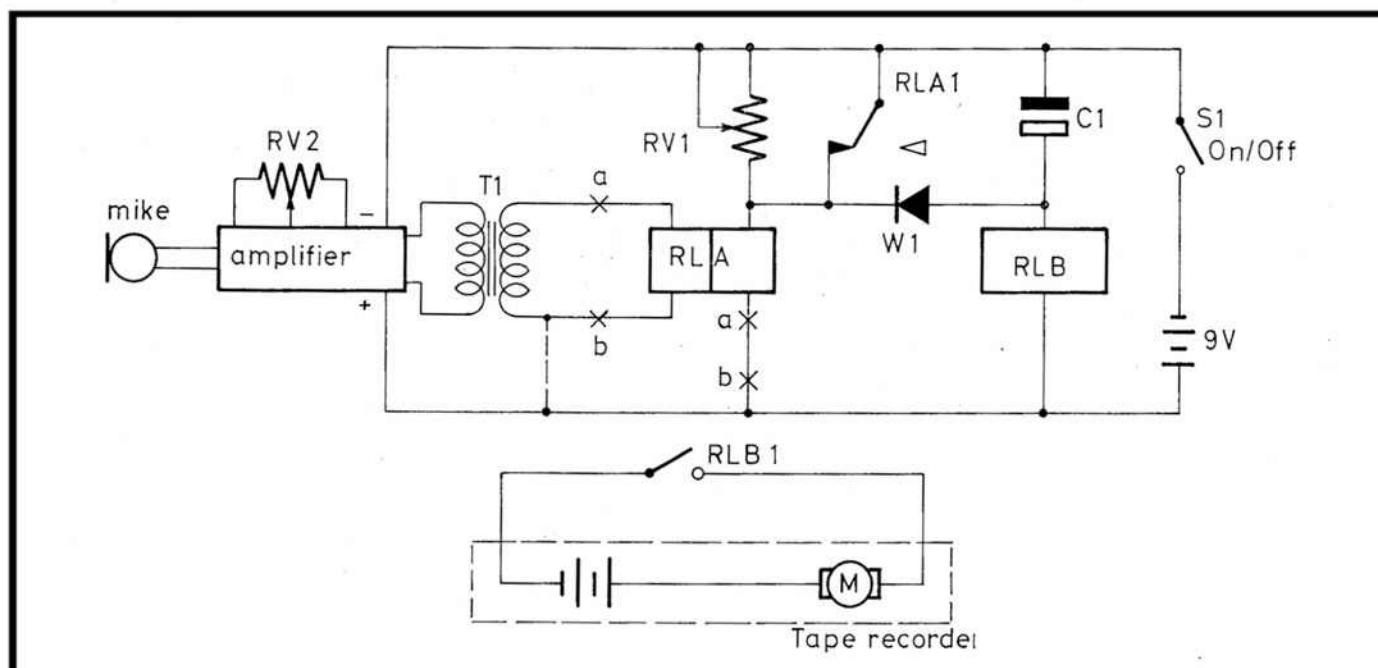

Fig. 1. Circuit of the acoustic switch.
The sound pressure level of normal conversation is not sufficient to operate a switch directly and so it is necessary to convert the sound into electrical energy using a microphone and apply it to an amplifier in order to raise it to a useful power level. The obvious method of using the amplifier output is to operate a relay, which in turn switches on or off the tape recorder motor circuit. Fig. 1 shows the complete circuit, the acoustic input being to the microphone at the left and the switch contacts being on the right. The microphone indicated is separate from the one associated with the recorder. It would be possible to use one microphone to drive both the recorder and the acoustic switch, but I decided that separate instruments give certain advantages. First, it is not necessary to split the output; this would reduce the power available for both amplifier and switch. Then
0.5mA, then 0.3mA (0.5-0.2) opposing the hold current, will release the armature. For our purpose, we want the relay as sensitive as possible and so we go a step further. In the de-energized condition, RLA1 short-circuits a resistor RV1, so that when current is applied it passes directly through the relay coil. The current is great enough to ensure that the relay energizes, but as RLA1 changes over, RV1 becomes part of the relay circuit and is arranged so that the relay current is just sufficient to hold the armature. Referring to our numerical example above, initial current through RLA would be, say, 0.6mA, while the resistor would reduce this to 0.25 mA. Thus, a change of 0.05mA, opposing the hold current would drop out the relay. Apart from the improved sensitivity, this arrangement has the advantage that a signal sufficient to overcome the holding current causes the relay to drop out so that the RLA1 change-over is complete. Where the T1 signal is applied to energize the coil directly, one contact would simply lift off momentarily and the other contact would not make. Fig. 1 shows RLA with two windings. This is the better arrangement as it keeps the T1 and RLA circuits separate. However, where a single winding relay only is available, the T1 secondary is connected as indicated, between the coil and the positive line.